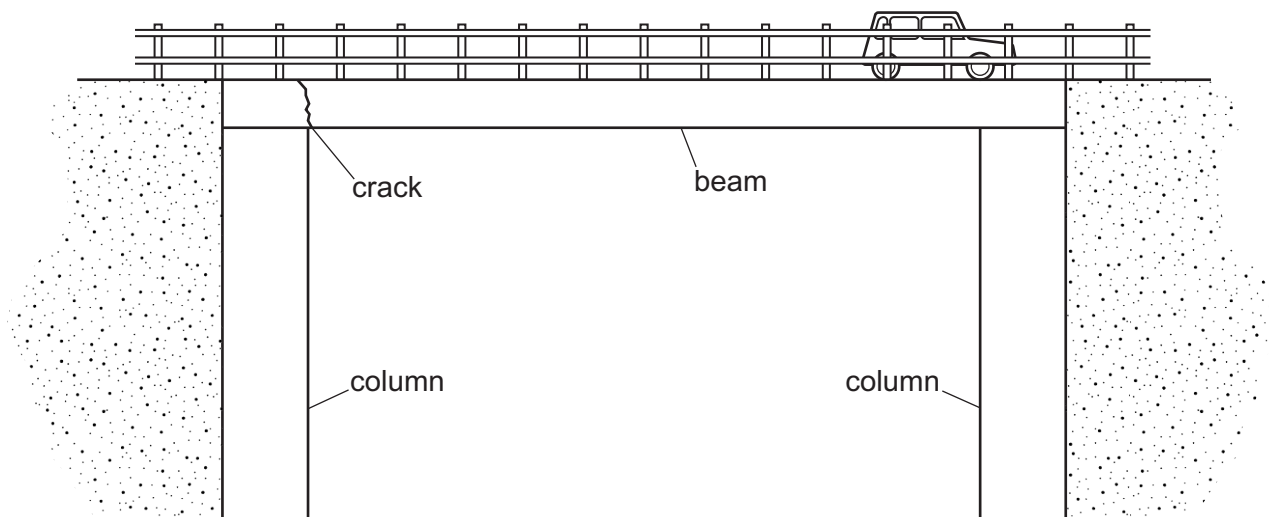

Fig. 9.2
- (b) Fig. 9.2 shows a road bridge with a concrete beam supported by columns.
- (ii) Add arrows to Fig. 9.2 to show the force acting on the beam.